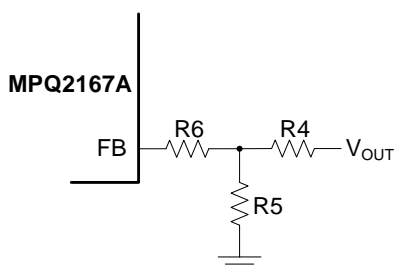

Figure 3: Feedback Network
The external resistor divider connected to FB sets the output voltage (see Figure 3). The feedback resistor (R4) must account for both stability and dynamic response, so it cannot be too large or too small. R4 is estimated to be 100kΩ. R5 is then given using Equation (2):
Using a T-type feedback network is highly recommended (see Figure 3).